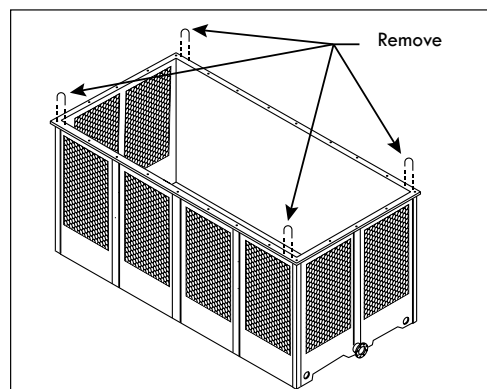

Figure A-56: Removing U-bolts from basin of a Modular Tower (RTM or RTPM)
- I. Remove the U-bolts located on the flange of basin section #1 before installing the body section #1 (see Figure A-56).